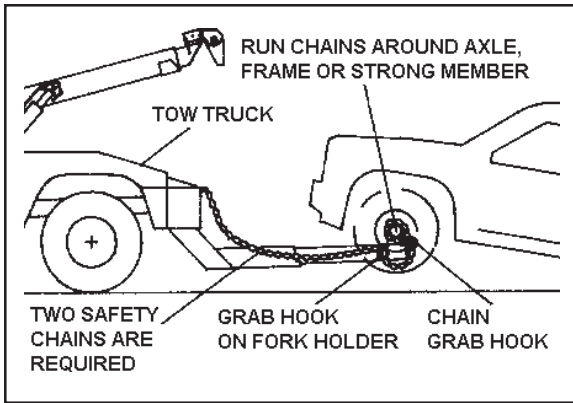

Figure 4-17.
12. Connect two safety chains from the tow truck to the axle or frame of the towed vehicle. The chains should be crossed and routed under the cross bar of the underlift. They should be attached to the axle or frame, then secured in the grab hooks on the fork holders, leaving some slack. The slack is needed because raising or lowering the stinger may cause the chains to tighten, depending on where they are attached to the vehicle. (See Figure 4-17.)